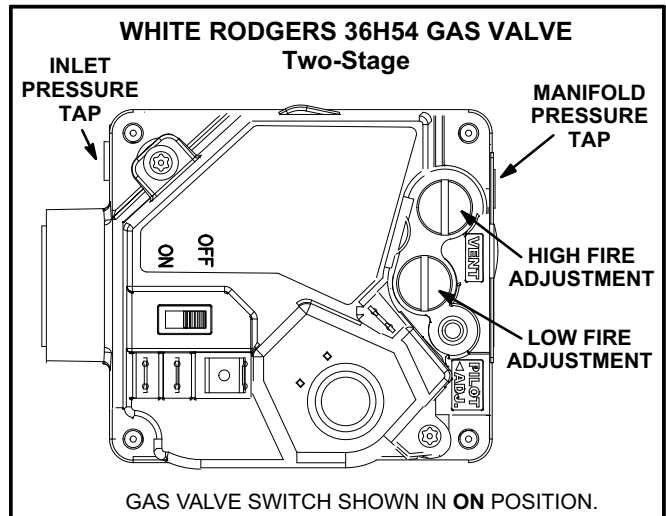
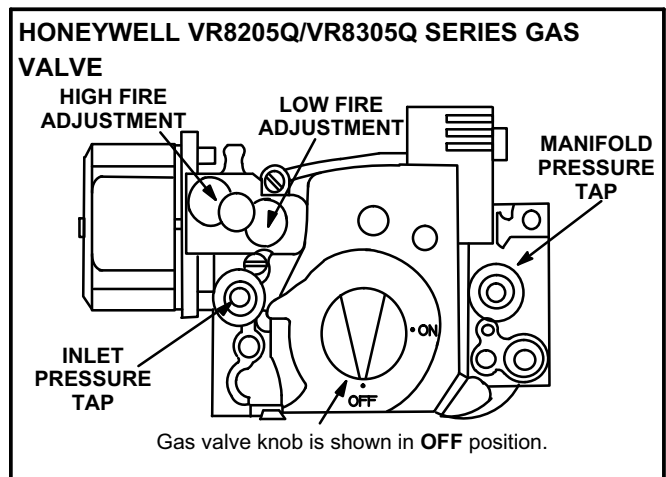

FIGURE 19
FIGURE 20
Gas Valve Operation Honeywell VR8205Q/VR8305Q and White Rodgers 36H54 (figure 19 and 20)
- 5- Turn gas valve switch to **OFF**. See figure 19. On Honeywell VR8305Q gas valves, turn the knob on the gas valve clockwise  to “OFF”. Do not force. See figure 20.
- 6- Wait five (5) minutes to clear out any gas. If you then smell gas, **STOP!** Immediately call your gas supplier from a neighbor's phone. Follow the gas supplier's instructions. If you do not smell gas, go to the next step.
- 7- Turn gas valve switch to **ON**. See figure 19. On Honeywell VR8305Q gas valves, turn the knob on the gas valve counterclockwise  to “ON”. Do not force. See figure 20.